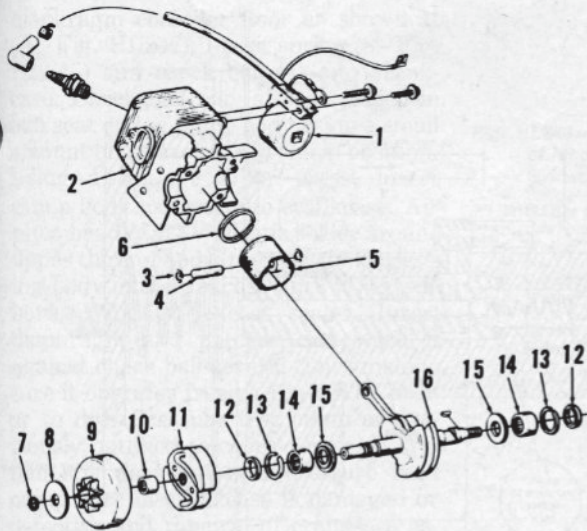

Fig. HL241—Exploded view of cylinder, crankshaft and clutch assemblies.
Inspect crankshaft bearings and renew if scored or worn. Thrust washers (15—Fig. HL241) should be installed with shoulder to outside. Crankshaft seals are installed with seal lip to inside. Cylinder and crankcase mating surfaces should be flat and free of nicks and scratches. Mating surfaces should be cleaned then coated with room temperature vulcanizing (RTV) silicone sealer before assembly.
Bearings, seals and thrust washers must be positioned correctly on crankshaft before final assembly. Use the following procedure for crankshaft installation: With piston assembly installed on rod, insert piston in cylinder being sure piston ring is aligned on locating pin. Install thrust washers (15—Fig. HL241), bearings (14), seal spacers (13) and seals (12) on crankshaft. Place 0.015 inch thick shims shown in Fig. HL243 between thrust washers and bearings as shown in Fig. HL244. Gently push seals toward crankshaft counterweights until assemblies are snug. Remove shims and complete assembly being careful not to disturb position of thrust washers, bearings and seals; do not tighten crankcase screws. Gently tap crankshaft at both ends, then tighten crankcase screws.